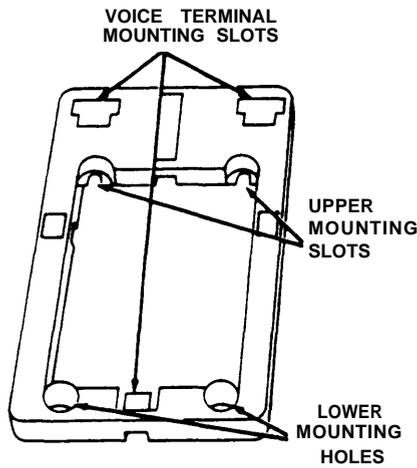

Figure 1
1. Select the wall mounting location: using the wall mount as a template, mark the four mounting hole locations (two upper slots and two lower holes). See Figure 1.